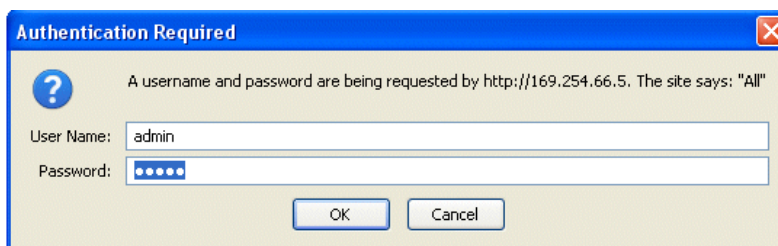

Figure 24. Login Screen
3. Enter the radio's IP address in a web browser window, just as you would enter a website address (http://192.168.1.1). When the login screen appears (Figure 24), enter the User Name and Password for the radio. The default entries for a new radio are both `admin`. Click OK.